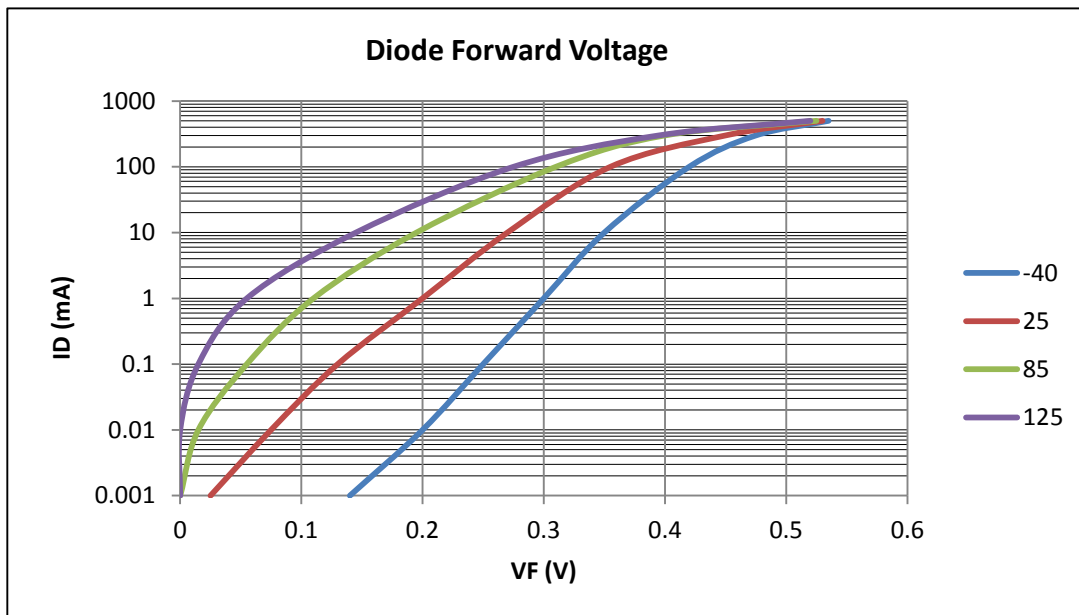
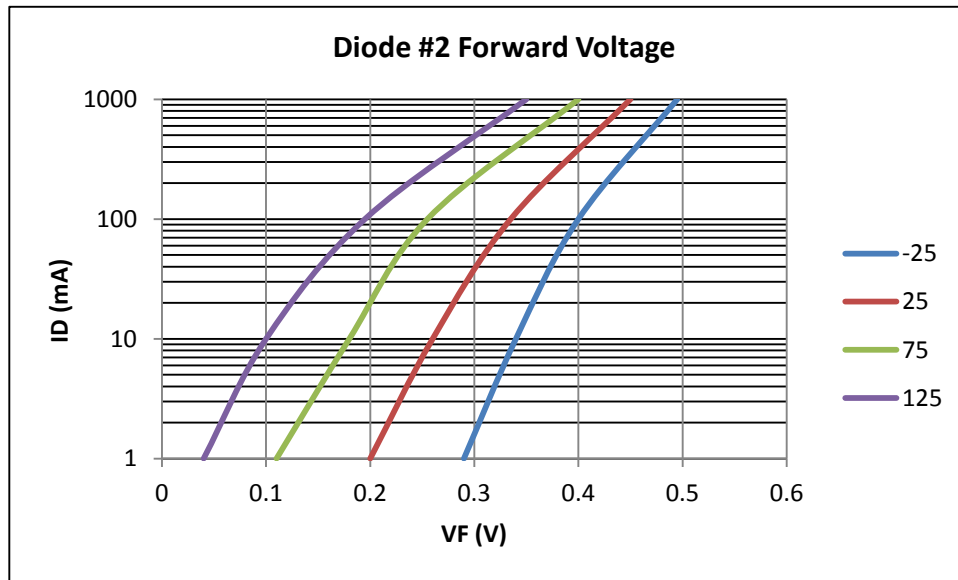

Figure 2. Diode #1 ID vs VF
Figure 3. Diode #2 I_D vs V_F
2.3.1 Diode Resistance (RD)
Typical Schottky VF is in the 0.2-V to 0.5-V range. Compare that to a PN junction diode with a 0.6-V to 1-V forward drop. As seen in Equation 4, VF is composed of an ideal term (VD) and the diode series resistance (RD) multiplied by the diodes forward current (ID). The VD term dominates at low currents. Typical VF curves for diode #1 and diode #2 are shown in Figure 2 and Figure 3. These plots are typically given in diode datasheet with the forward voltage on the X axis and forward current on the Y axis.